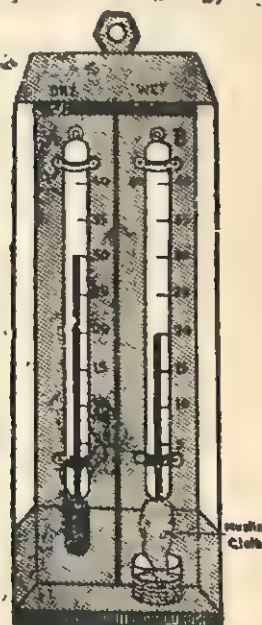

Fig. 10.2. Wet and Dry Bulb Hygrometer.
**N.B.** The same experiment may be conducted using the conventional wet and dry bulb hygrometer as shown in Fig. 10.2.